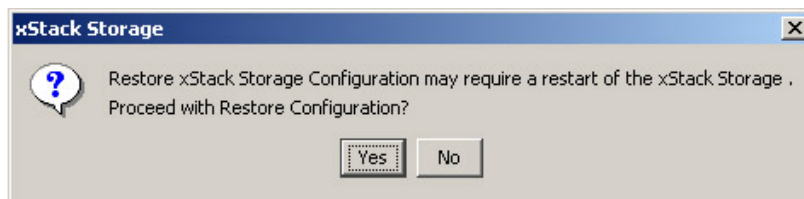

Figure 5-53. Configuration Restore Message
2. Locate the configuration file whose settings you want to load, then select the file and click the **Open** button. The message in Figure 5-53 appears.